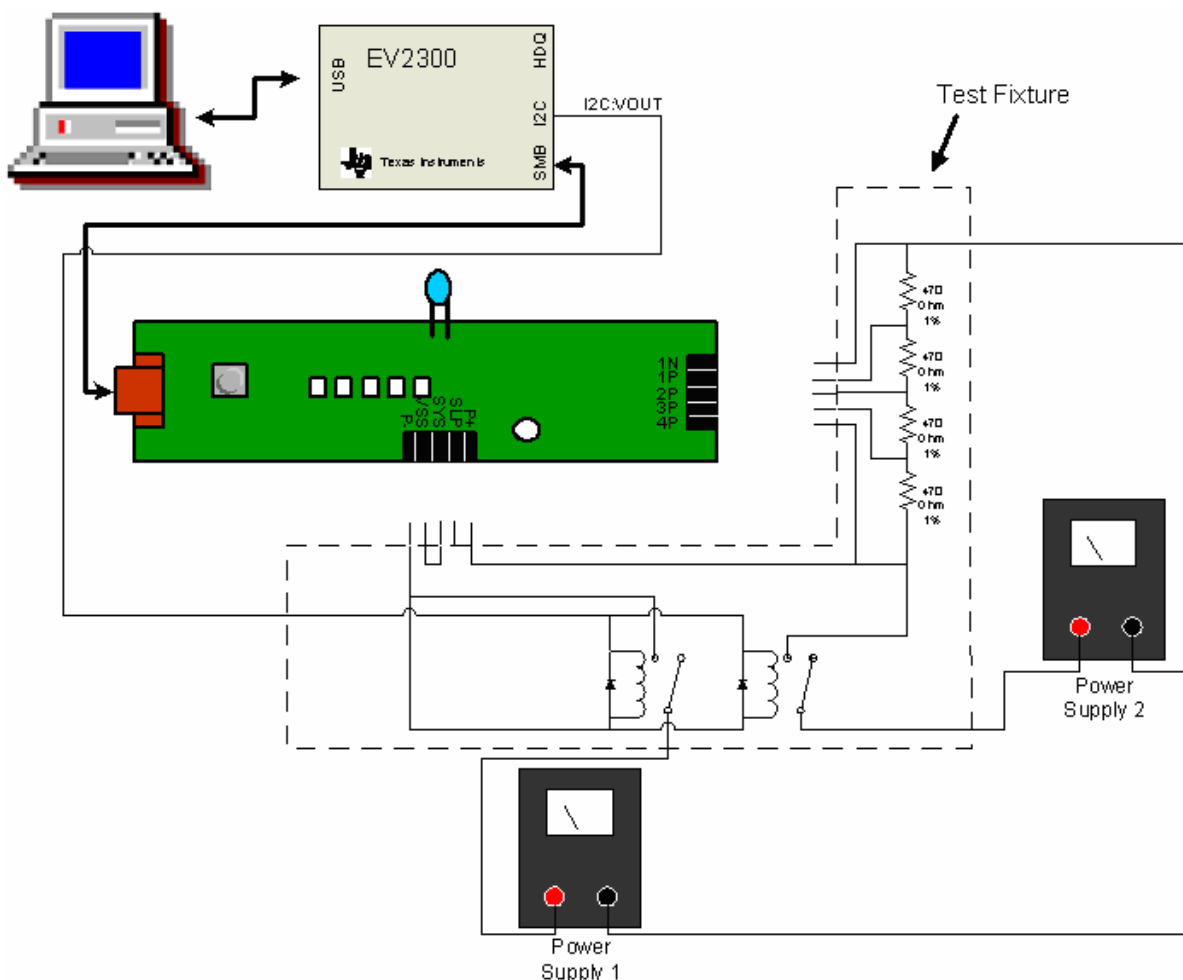

Figure 1. EV2300/Smart Battery Module Connections
The BQTester software requires that the TI EV2300 USB-based PC interface board for battery fuel gauge evaluation interface be installed and running properly. The smart battery module should be connected to the EV2300 board and external power supplies as shown in Figure 1.
Do not use actual battery cells with this software. Cells should be simulated with resistors as shown in Figure 1.
1. Ensure that the EV2300 and bq20z80-based smart battery module are connected as shown in Figure 1 and that all power supplies are turned on.
22.3.131.11 Voltage Calibration This box shows the currently measured voltage and provides a box for the user to enter the actual voltage being supplied to the part as measured by a calibrated meter. It also has a box for the user to enter the number of series cells being simulated. The default number of cells is 4. It also has a FET Control selection box. Select *Off (Batt)*, and supply voltage to the simulation resistors as shown in Figure 1 (this configuration is the default). Never select *On (Pack)*; it is only included for possible future use. To select voltage calibration, place a check in its selection box, or deselect it by removing the check. The default is checked. Note that if this test is disabled, the values from the *gold* data flash file are used and not the values currently in the part.
22.3.131.13 Pack Current Calibration This box shows the currently measured current and provides a box for the user to enter the actual current being supplied to the part as measured by a calibrated meter. It also has a FET Control selection box. Always select *On (External Load)* and supply current to the Pack– and 1N (Batt–) inputs of the bq20z80-based smart battery pack as shown in Figure 1 (this configuration is the default). Never select *Off (Bypassed)*; it is only included for possible future use. To select Pack Current calibration, place a check in its selection box, or deselect it by removing the check. The default is checked. Note that if this test is disabled, the values from the *gold* data flash file are used and not the values currently in the part.